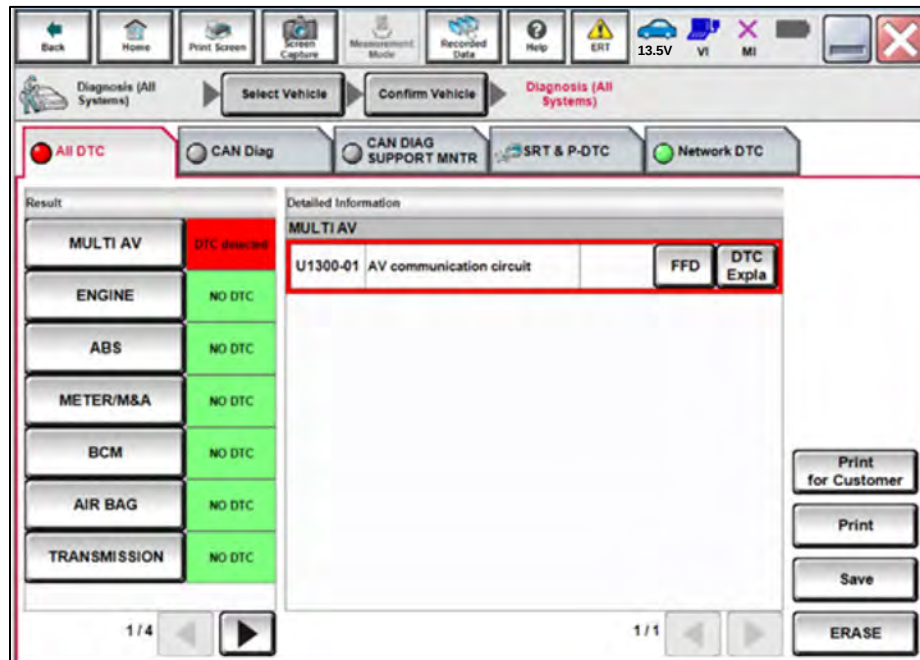

Figure 45
61. Check for DTCs (Figure 45).